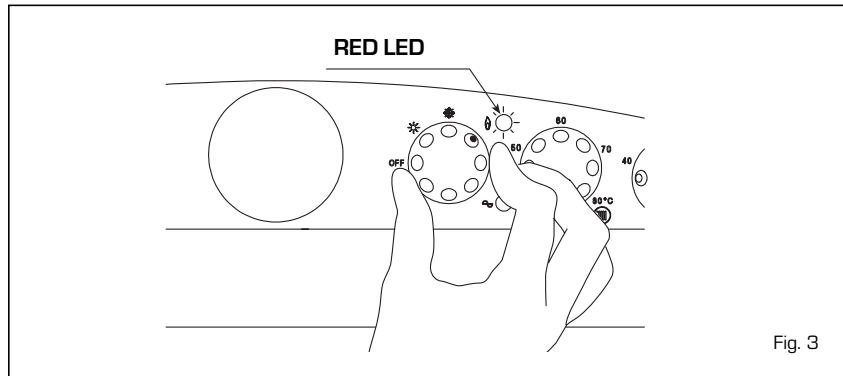

Fig. 3
- **Ignition failure/safety stat interception** (fig. 3)